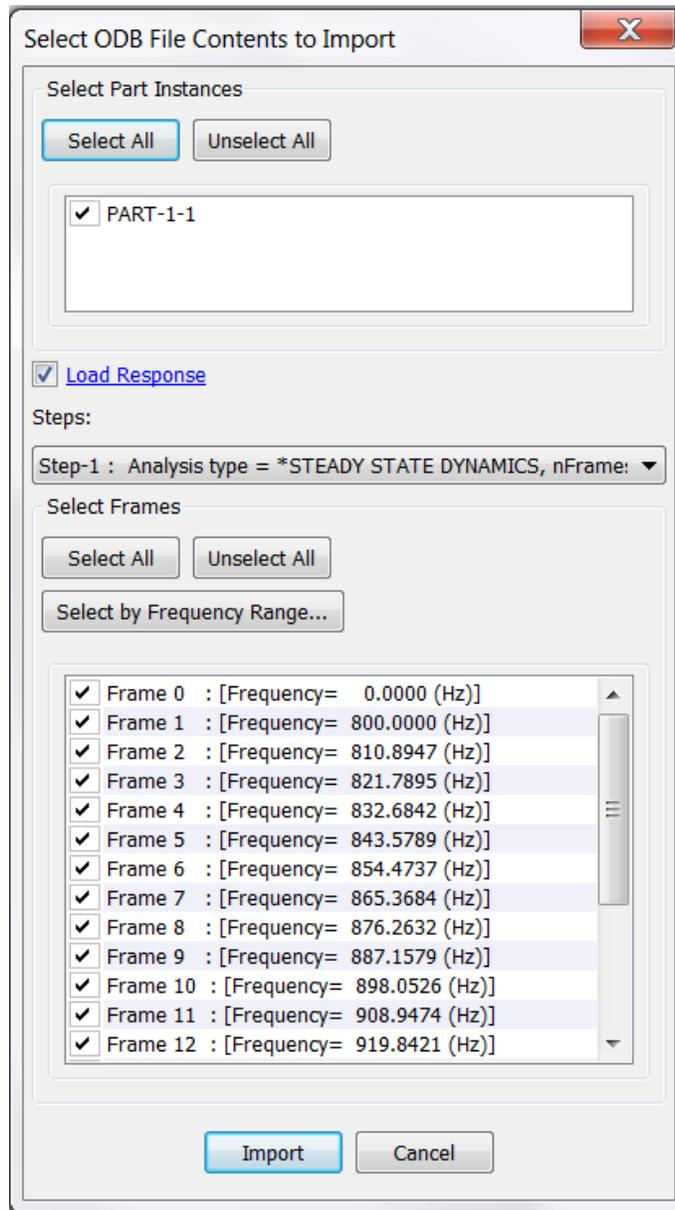

Figure 5.3 Odb Reader Import Options Dialog Box.
**5.1.1.1. Abaqus \*.odb file** Abaqus Output Database file (\*.odb) is a results file from the Abaqus FE analysis. It includes information about both the geometry and the response. On import, Coustyx displays the dialog box (Figure 5.2) about the dll requirements for the odb reader. Coustyx requires the version Abaqus 2023-Golden odb API dlls for the odb reader. If Abaqus 2023-Golden is installed on the same machine as Coustyx, then make sure the directories containing the odb API dlls in the Abaqus installation folder are exposed to Coustyx through the system path. If Abaqus 2023-Golden is not installed on your machine, then download appropriate dlls from the Abaqus ftp site and copy them to the installation directory as instructed in the dialog box. After successfully reading the file, odb import options dialog box (Figure 5.3) appears. The user can select the part and the response at various frequencies to be imported into *Coustyx*.